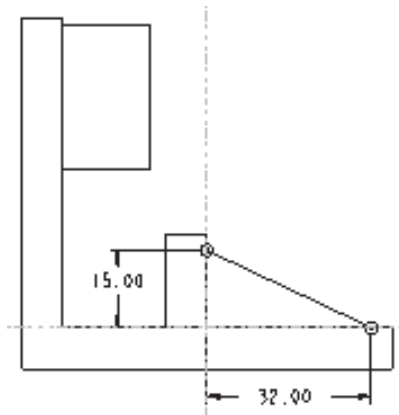

Figure 5-57 Sketch for the rib feature with the model display set to **No Hidden**
5. Specify the references and close the reference dialog box. Draw the open sketch of the rib feature and apply the dimensions as shown in Figure 5-57. Exit the sketcher environment by choosing the **Continue with the current section.** button.